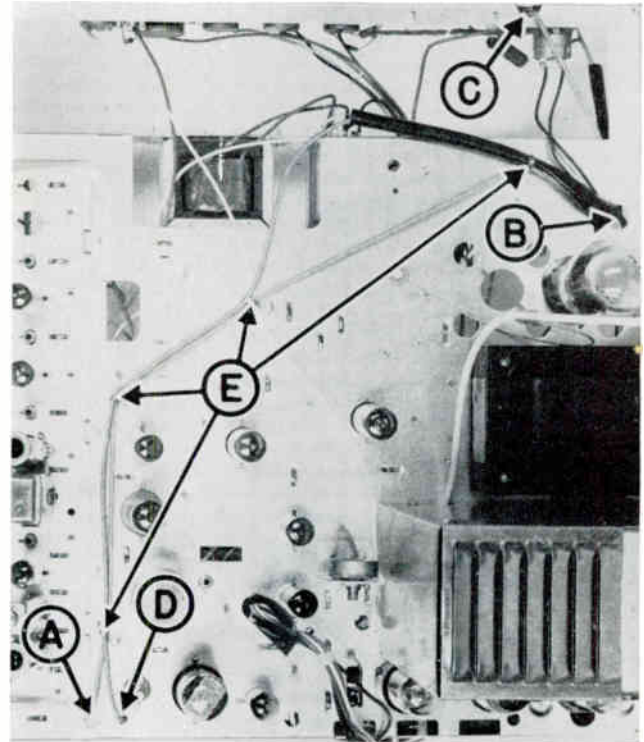
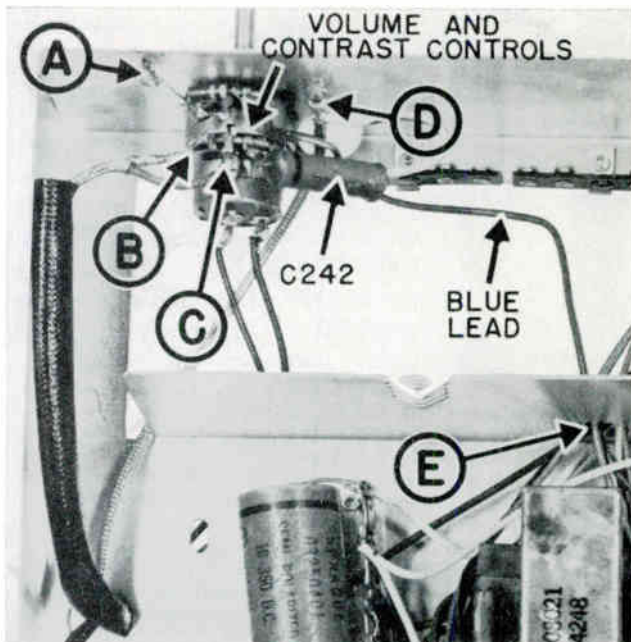

Figure C-2
Figure C-3
1. Remove the shielded leads running between the junction of C241-R252 to C242 (adjacent to the Volume Control, R290A) and from R290A to C244 in the grid circuit of the first audio amplifier, V210. Reroute the leads as shown in figure C-2. Run the lead from C241-R252 through holes A, B and C. Run lead from C244 through hole D, place a 12 inch length of spaghetti over the lead and run through hole B. Fasten leads to chassis at points indicated by E. Connect leads to Volume Control as shown in figure C-3.
2. Run leads around edge of shield. Remove volume control ground wire connected between points A and B (do not disturb the contrast control ground). Connect shield of lead from C244 at point B and center wire to point C. Ground shield of lead from C241-R252 at point D and connect center wire to C242 at terminal board. Disconnect blue lead from ungrounded end of the contrast control (R290B), run through hole E, reconnect and dress lead along front of chassis as shown in figure C-3.